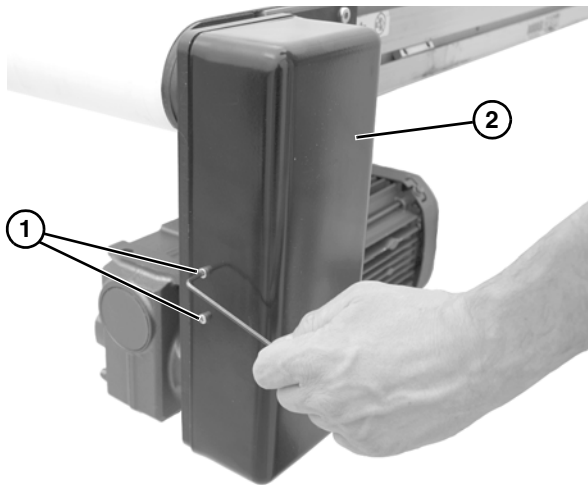

Figure 24
- Remove four (4) screws (**Figure 24, item 1**) and remove cover (**Figure 24, item 2**).